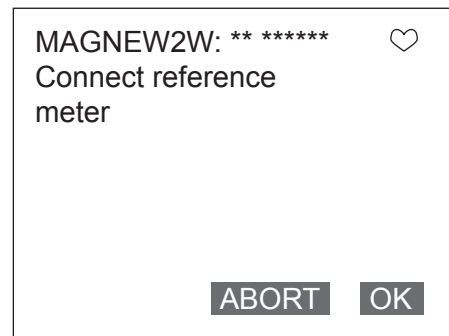

Fig. 7-42.
2. Once the display as shown in Fig. 7-42. appears, move the arrow key up or down to select Off or Hold. After making a selection, press F4 (ENTER). If F3 (ESC) is pressed here, the selection will be canceled and the display will return to the Pulse output menu.